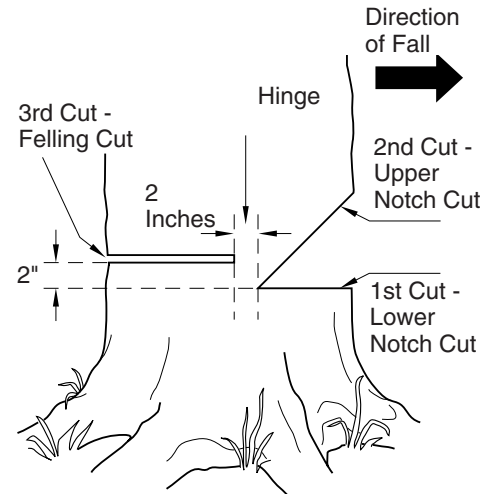

Figure 11 - Felling A Tree
A properly placed felling notch will determine direction tree will fall. Place felling notch on side of tree in direction you want tree to fall (see Figure 11). Follow directions below to create a felling notch.
1. Make lower notch cut as close to ground as possible. Hold saw so guide bar is horizontal. Cut 1/3 the diameter of tree trunk (see Figure 11). *Note:* Always make this horizontal lower notch cut first. If you make this cut second, tree can pinch chain or guide bar.
Example: If lower notch cut is eight inches deep, start upper notch cut eight inches above it. Cut downward at 45° angle. The upper notch cut should meet end of lower notch cut (see Figure 11).
1. Make felling cut two inches higher than lower notch cut and on opposite side of tree (see Figure 11). Keep felling cut parallel to lower notch cut.
⚠ **WARNING:** Do not cut all the way through tree. Leave about two inches of tree diameter uncut directly behind felling notch (see Figure 11). This uncut portion acts as a hinge. The hinge helps keep tree from twisting and falling in wrong direction.